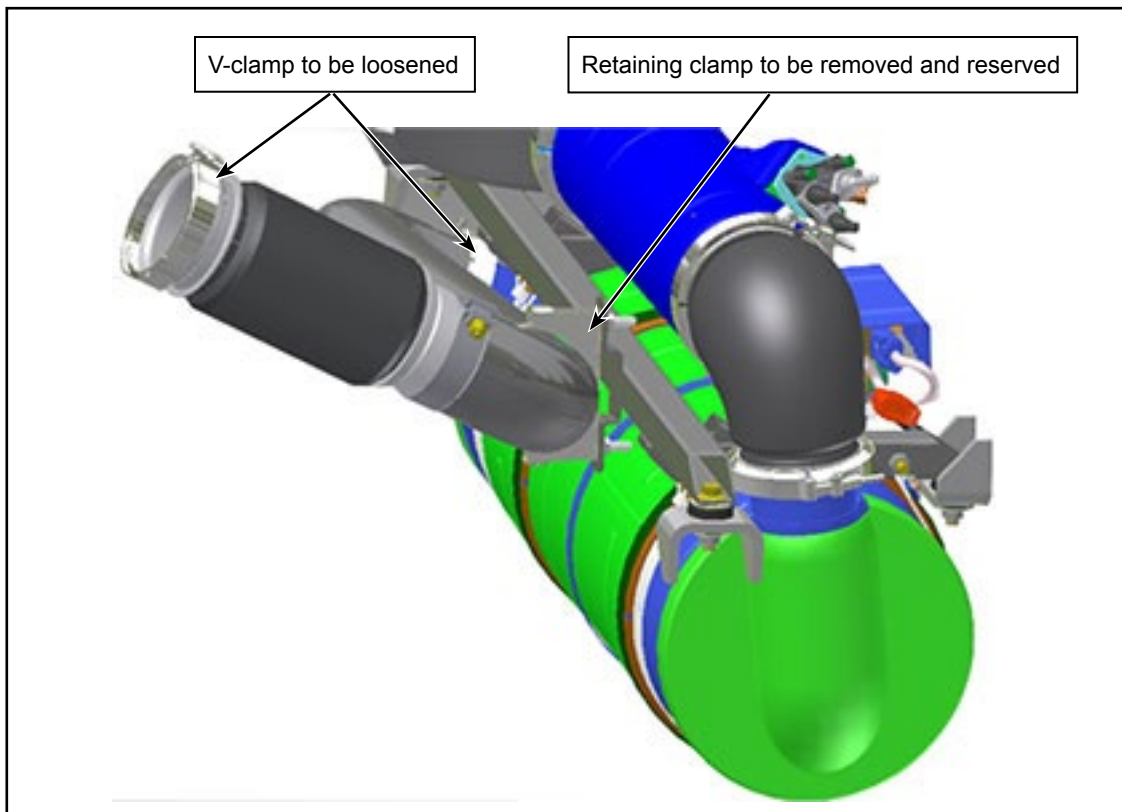

Figure 1 - Removal of Exhaust Pipe and Flexible Bellows
- 1.4. Fully loosen the top V-clamp of the flexible bellows. See Figure 1.
- 1.5. Remove the retaining clamp of the exhaust pipe. Reserve the retaining clamp and hardware. See Figure 1.
- 1.6. Fully loosen the exhaust pipe V-clamp. See Figure 1.
- 1.7. Remove the exhaust pipe and flexible bellows. Discard all the clamps and hardware. See Figure 1.